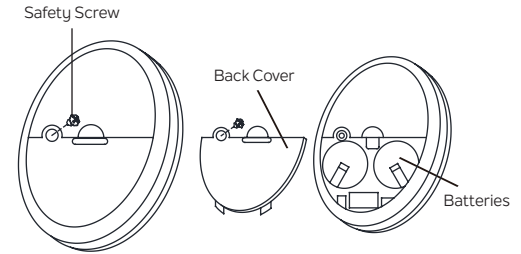

Fig. 25
INSTALLING THE TRANSMITTER BATTERIES (Fig. 25)
Step 1. Remove the back cover of the transmitter and safety screw. (Fig. 25)